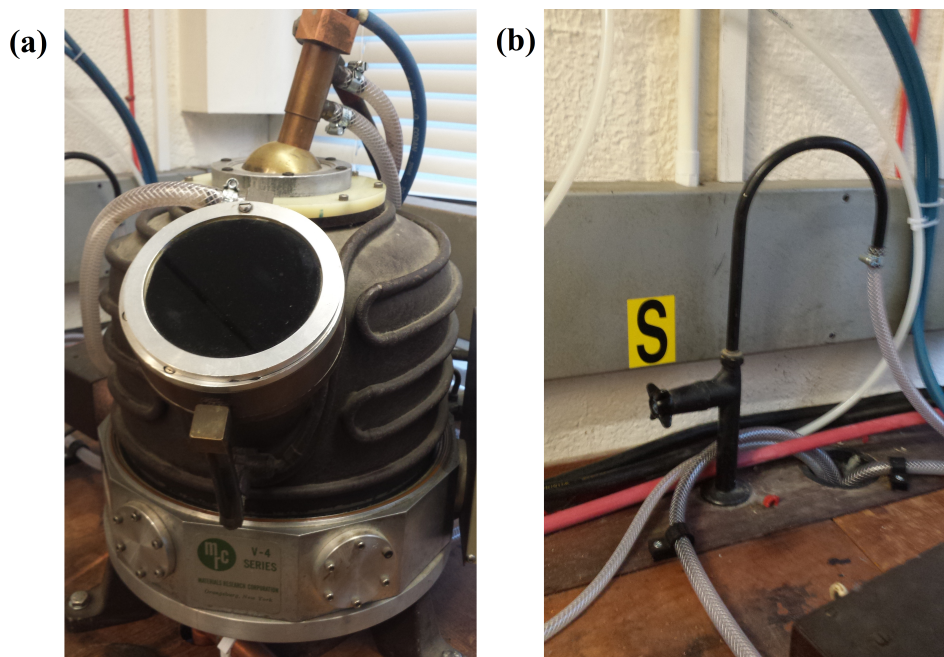

Figure 14: (a) UV shield in place, (b) water tap used for cooling the mono-arc arc furnace.
**Step 9:** Place the UV shield over the viewing port (Fig. 14(a)).
**Step 10:** Turn the water on at the tap (Fig. 14(b)).